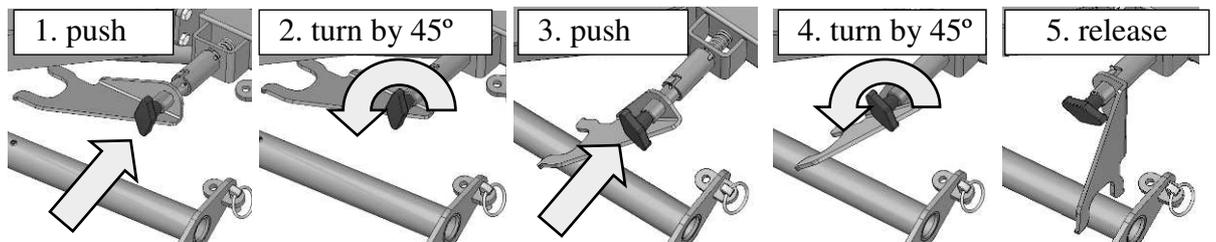
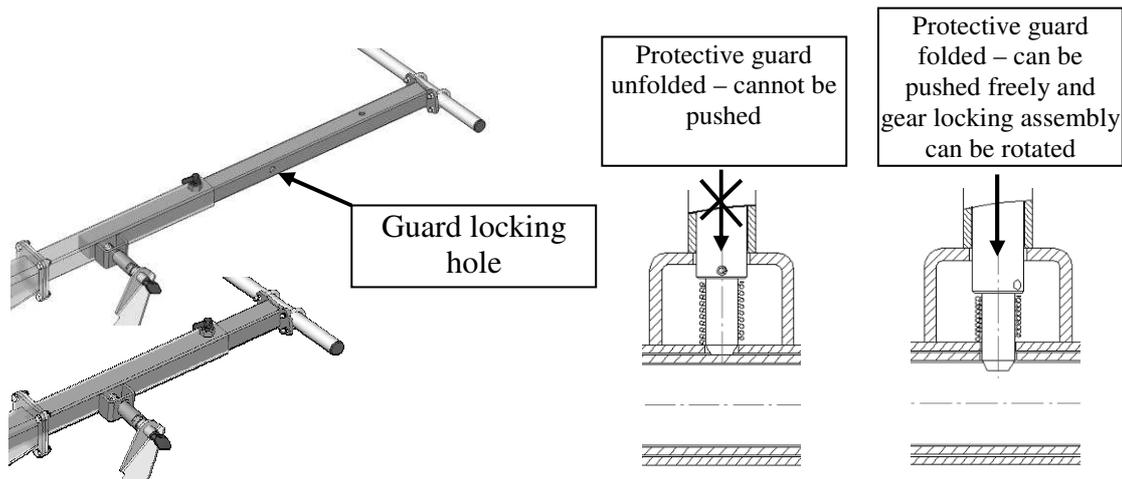
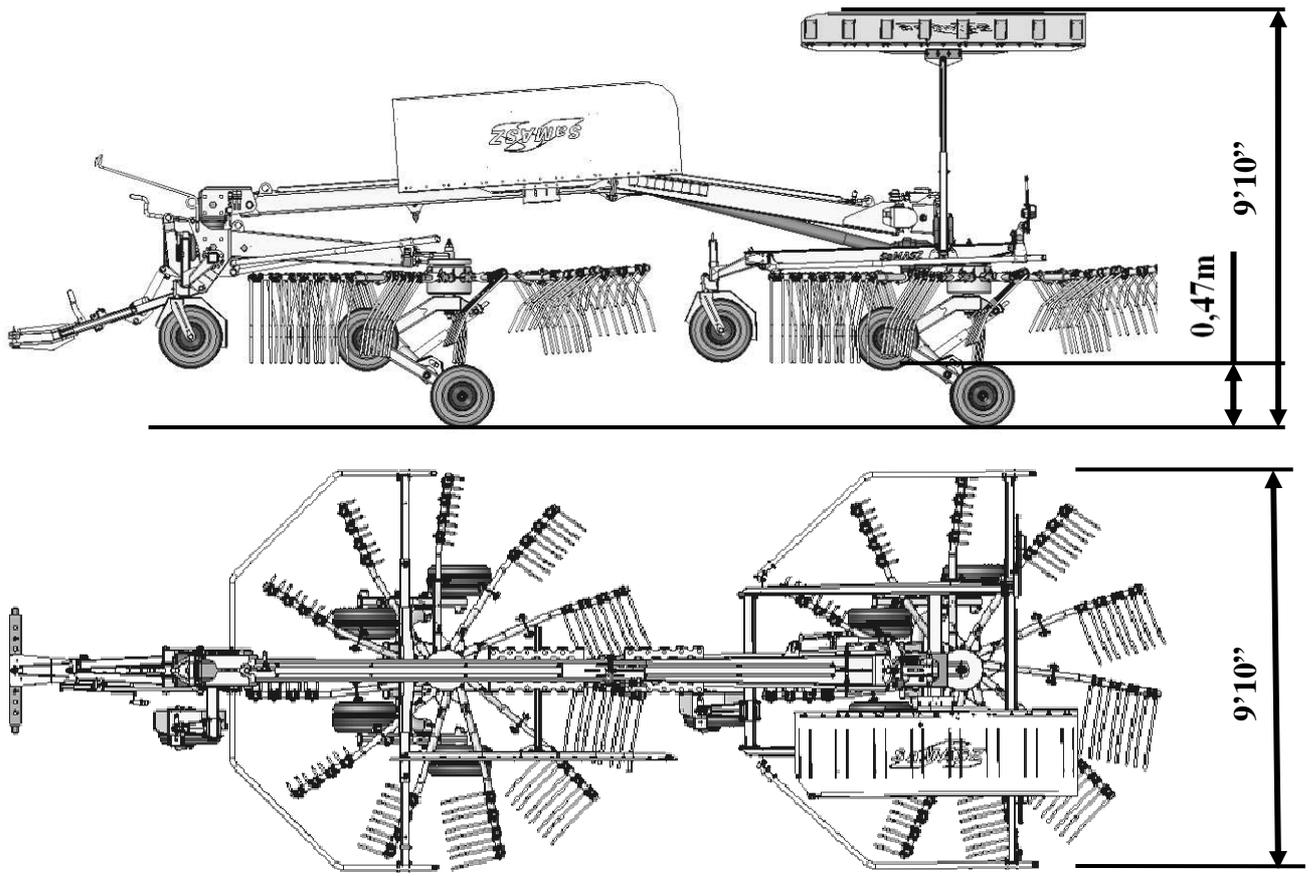
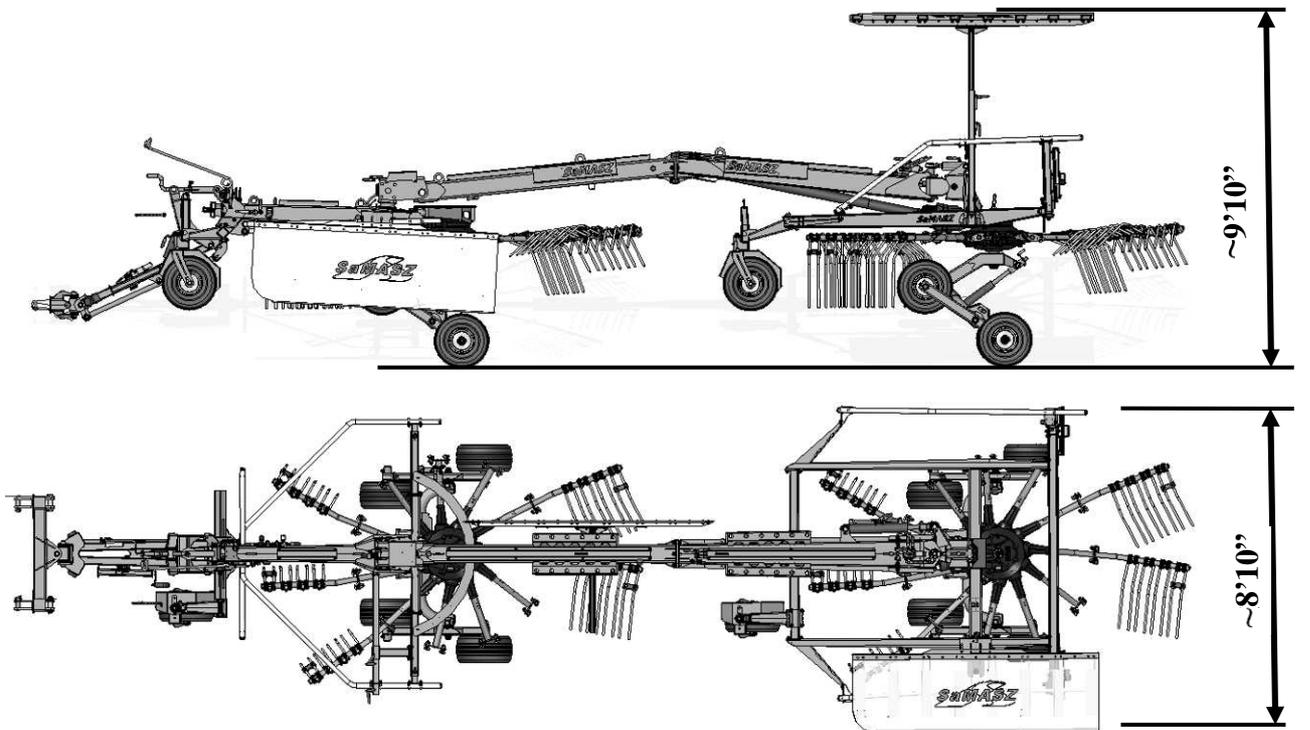

Fig. 14. Transport locking assembly for locking rotations of the front rotor gear (**DUO 740**)
Fig. 15. Front star guard lock (DUO 740)
Fig. 17. Transport dimensions of rake DUO 680
Fig. 18. Transport dimensions of rake DUO 740
- ❑ For DUO 740, lock the rotations of the front rotor gear by means of locking assembly located by front rotor according to instructions in **Fig. 14** after firstly having folded the front guard (**Fig. 15**). Dismount the outer-most arms as in **Fig. 18**.
The locking assembly on DUO 740 can be switched to “locked” position only with front rotor protective guard folded (**Fig. 15**).
In the above case rake **DUO 680** transport width is **9' 10"** (**Fig. 17**) and rake **DUO 740** — **8' 10"** (**Fig. 18**).